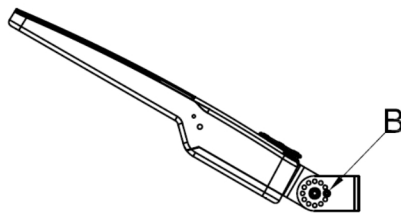

Fig. 7
3. Adjust the Angle you want by using the screws at Bon both sides as shown in Fig. 7.